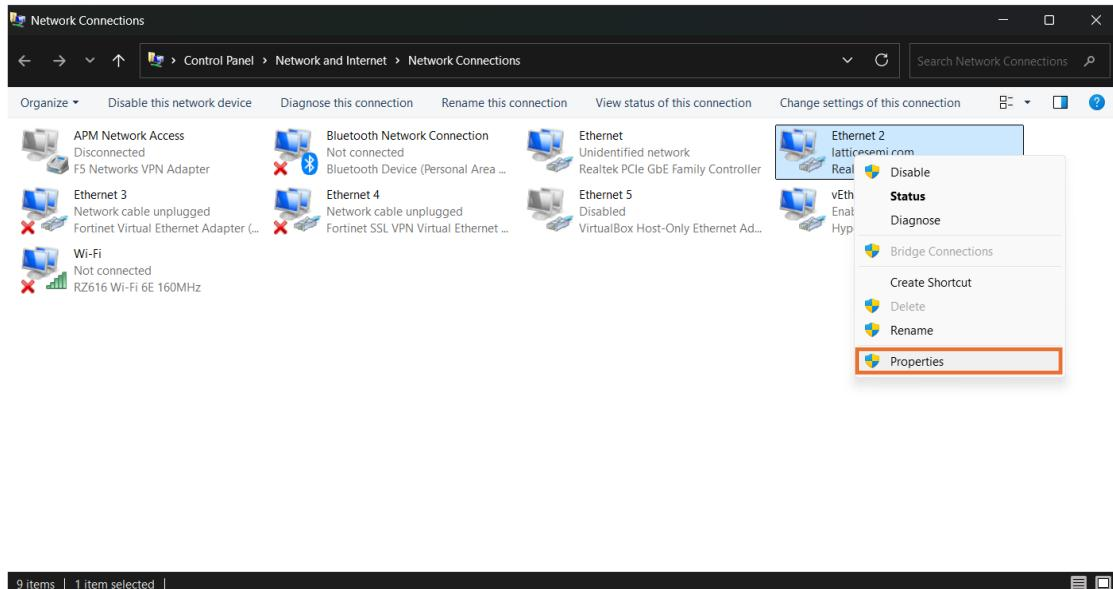

Figure 5.22. Network Connections
5. Right-click on the adapter which is connected to the internet and select **Properties** as shown in Figure 5.22.